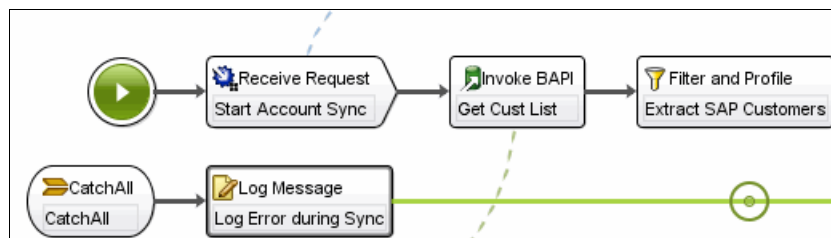

Figure 10-66 Insert location in global catch
1. Click the global catch branch to find the location for new activities, as shown in Figure 10-66.